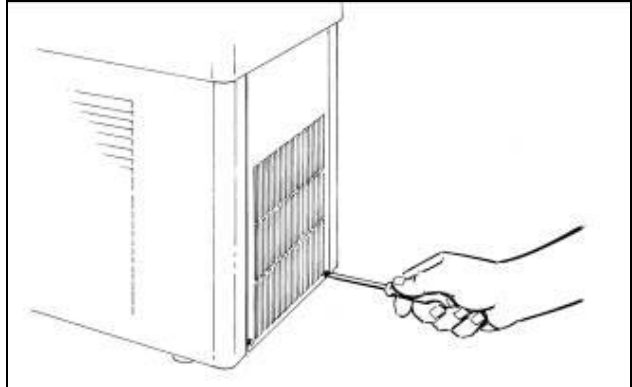

Fig. 45
-GT1 machine: remove the rear panel by unscrewing the two bolts fastening it (fig.45);